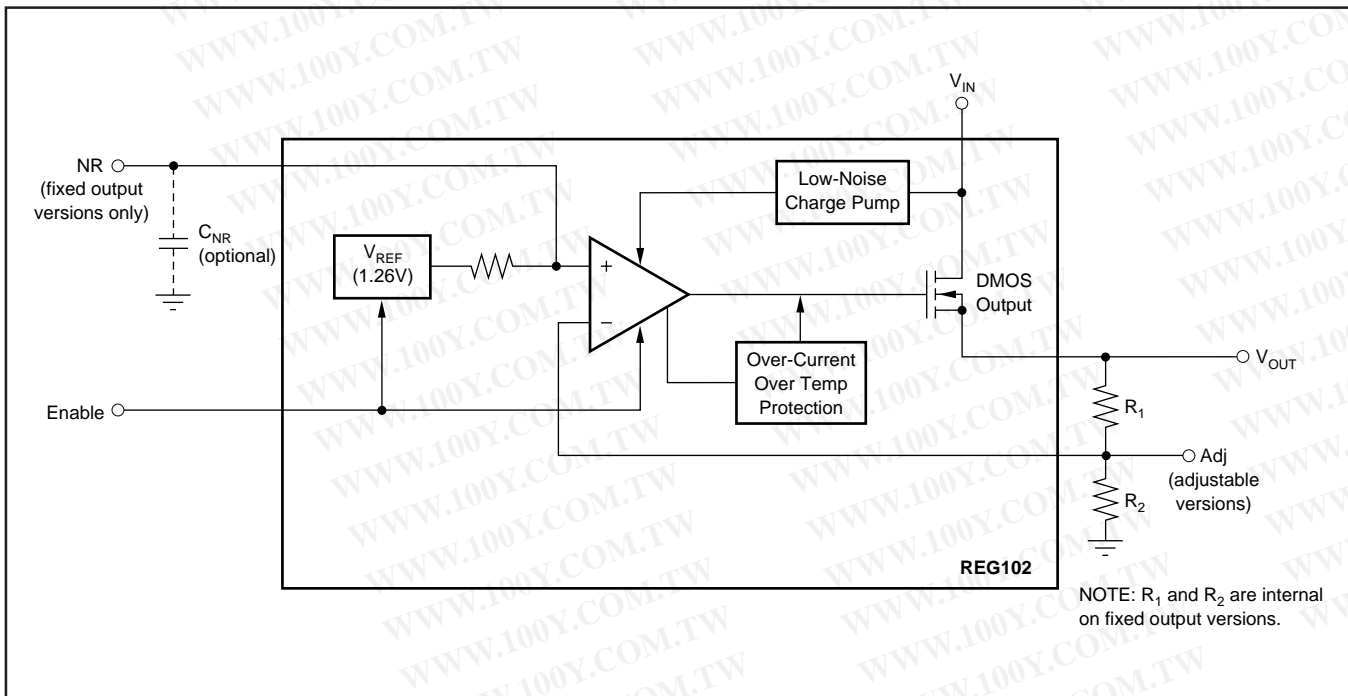
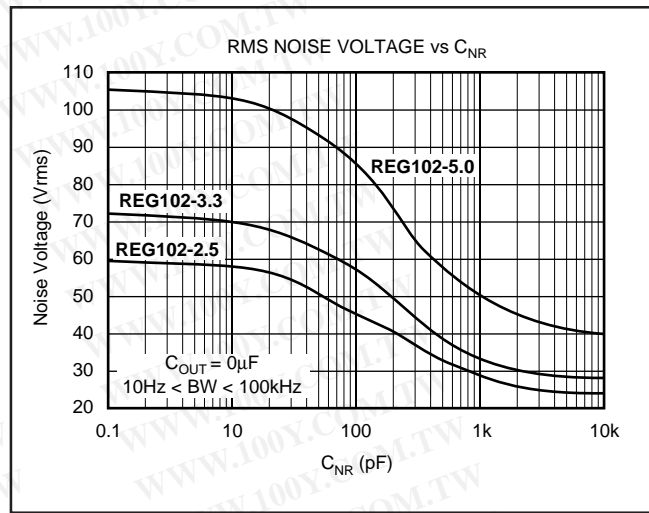

FIGURE 4. Block Diagram.
FIGURE 5. Output Noise versus Noise Reduction Capacitor.
Connecting a capacitor,  $C_{NR}$ , from the Noise Reduction (NR) pin to ground forms a low-pass filter for the voltage reference. Adding  $C_{NR}$  (as shown in Figure 4) forms a low-pass filter for the voltage reference. For  $C_{NR} = 10\text{nF}$ , the total noise in the 10Hz to 100kHz bandwidth is reduced by approximately a factor of 2.8 for  $V_{OUT} = 3.3\text{V}$ . This noise reduction effect is shown in Figure 5 and as *RMS Noise Voltage vs  $C_{NR}$*  in the Typical Characteristics section.